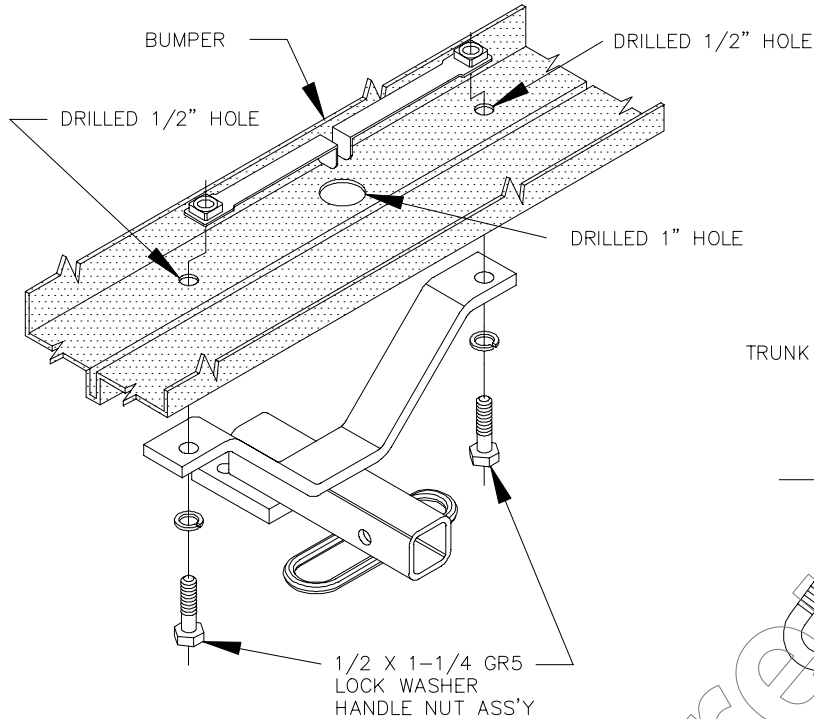

FIGURE 1
4. DRILL 1" HOLE IN VEHICLE BUMPER BETWEEN THE TWO (2) 1/2" HOLES.
5. RAISE HITCH BACK INTO POSITION AND INSTALL 1/2" FASTENERS (SEE FIGURE 1).